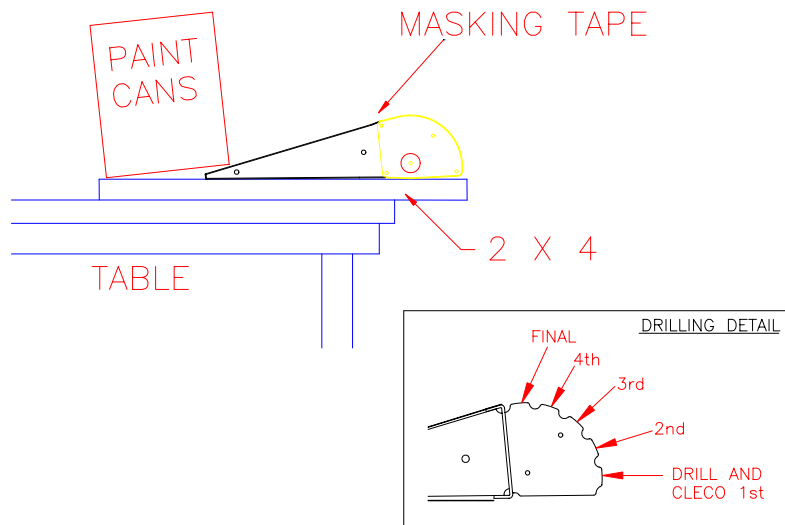

Figure 7.4.3
7) Attach the Leading Edge Ribs to the Aileron Skin, working from the center towards each end, and from the bottom of the nose to the Aileron Spar. Drill and cleco as you go. Masking tape or packing tape may be used to assist in pulling the Skin around the Leading Edge Ribs. The center lines on the ribs should be visible through the holes in the Skin. Use a #40 drill. Use a sharp drill bit and press lightly, the rib tabs tend to bend easily. Figure 7.4.3.